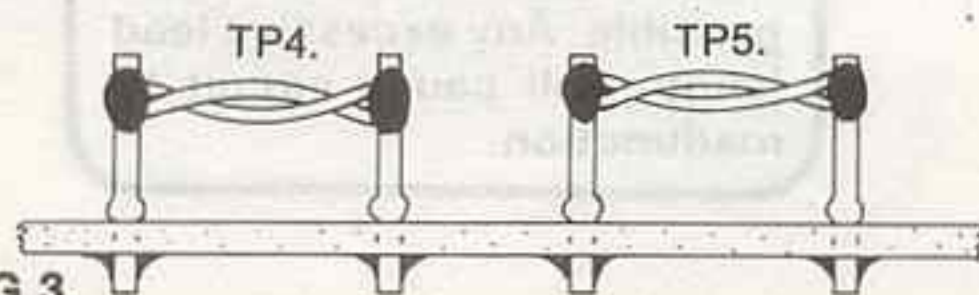

FIG. 3.
5. Links shown for TP4 & TP5 are soldered to two PCB pins temporarily. Use two lengths of 25B&S tinned copper wire, twisted together for each link. (Ref to Fig 3).